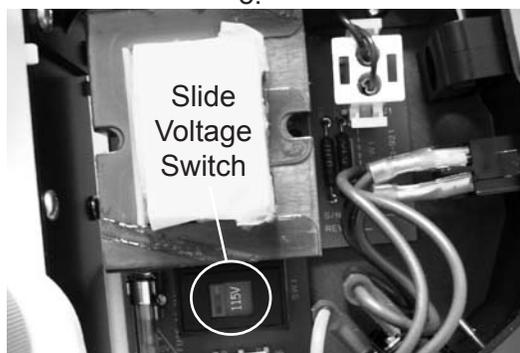

Figure IS-20 Voltage Switch
3. Slide the plastic switch to change the Voltage. Refer to Figures IS-20 and IS-21.